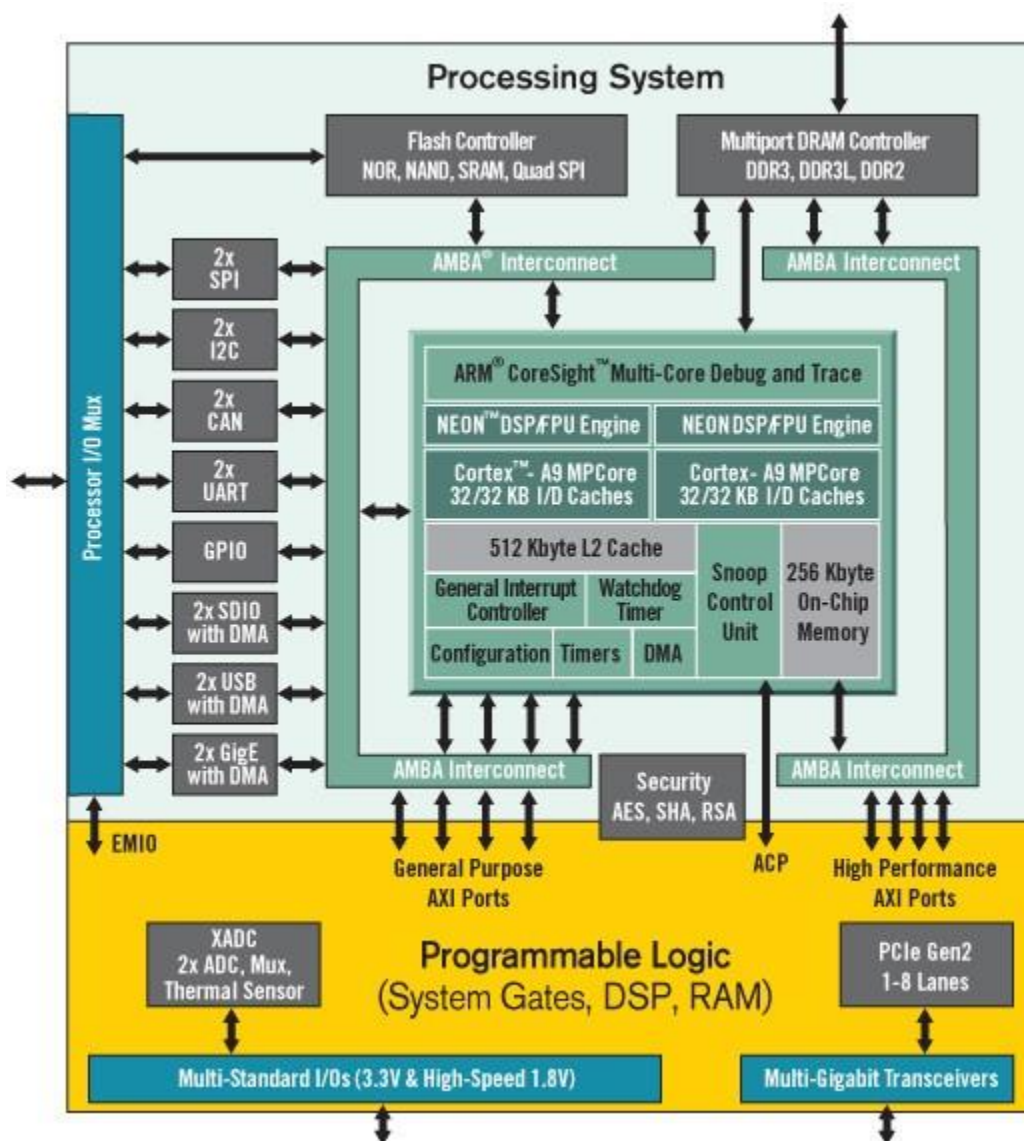

Figure 3. Zynq AP SoC architecture.
The Zynq AP SoC is divided into two distinct subsystems: The Processing System (PS), and the Programmable Logic (PL). Figure 3 shows an overview of the Zynq AP SoC architecture, with the PS colored light green and the PL in yellow. Note that the PCIe Gen2 controller and Multi-gigabit transceivers are not available on the Zynq-7010 device.
The PS consists of many components, including the Application Processing Unit (APU, which includes 2 Cortex-A9 processors), Advanced Microcontroller Bus Architecture (AMBA) Interconnect, DDR3 Memory controller, and various peripheral controllers with their inputs and outputs multiplexed to 54 dedicated pins (called Multiplexed I/O, or MIO pins). Peripheral controllers that do not have their inputs and outputs connected to MIO pins can instead route their I/O through the PL, via the Extended-MIO (EMIO) interface. The peripheral controllers are connected to the processors as slaves via the AMBA interconnect, and contain readable/writable control registers that are addressable in the processors' memory space. The programmable logic is also connected to the interconnect as a slave, and designs can implement multiple cores in the FPGA fabric that each also contain addressable control registers. Furthermore, cores implemented in the PL can trigger interrupts to the processors (connections not shown in Fig. 3) and perform DMA accesses to DDR3 memory.
Figure 3 depicts the external components connected to the MIO pins of the ZYBO. The Zynq Board Definition File found on the Diligent ZYBO product page can be imported into EDK and Vivado Designs to properly configure the PS to work with these peripherals.